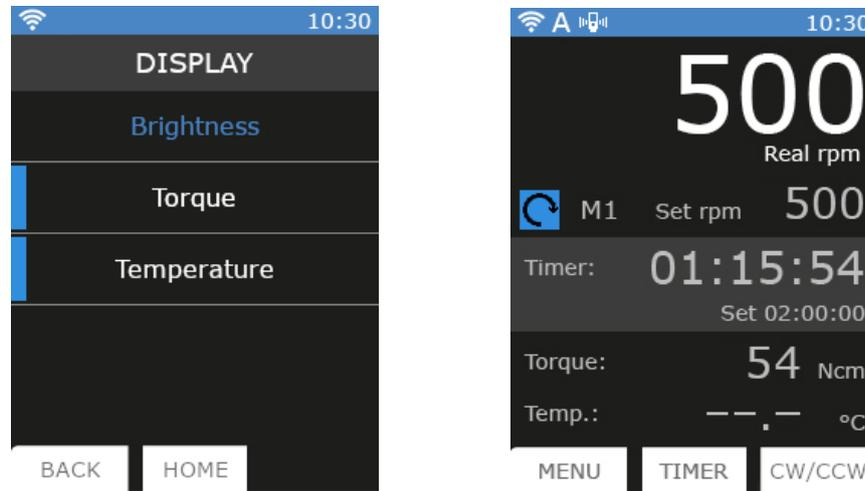

Figure 17. Main without temperature probe
- When temperature is displayed but Pt100 probe is not inserted in the instrument, the main screen appears as in Figure 17.